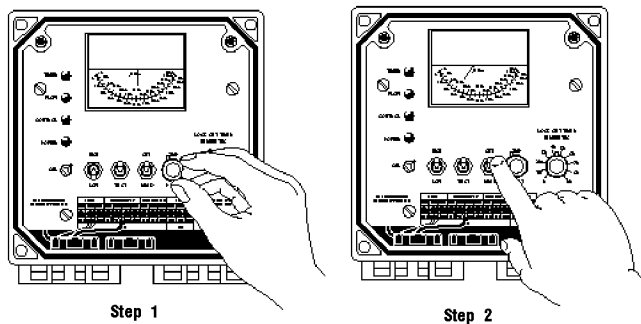

Fig. 8, Trip Point Setpoint
1) With Set/Read Switch in "Set" position, turn Trip Point Knob to position needle on analog scale to desired trip point (See Fig. 8, Step 1).
2) Return the Set/Read Switch to "Read" (See Fig. 8, Step 2).